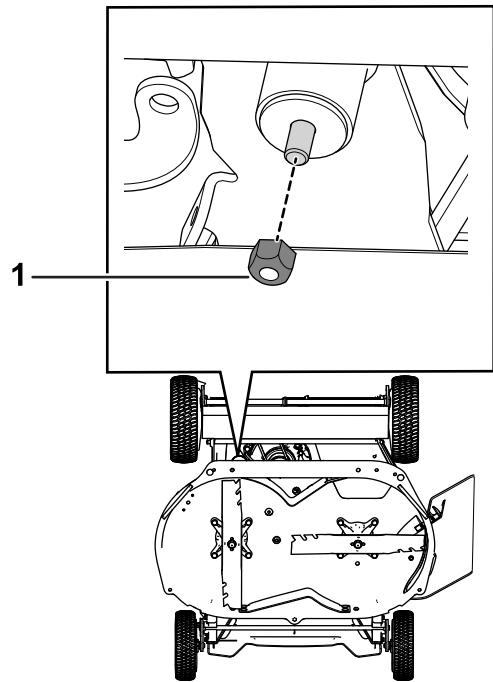

Figure 7
3. Remove the bolt and the nut that secures the brake arm onto the machine; retain and set the bolt and the nut aside (Figure 6 and Figure 7).